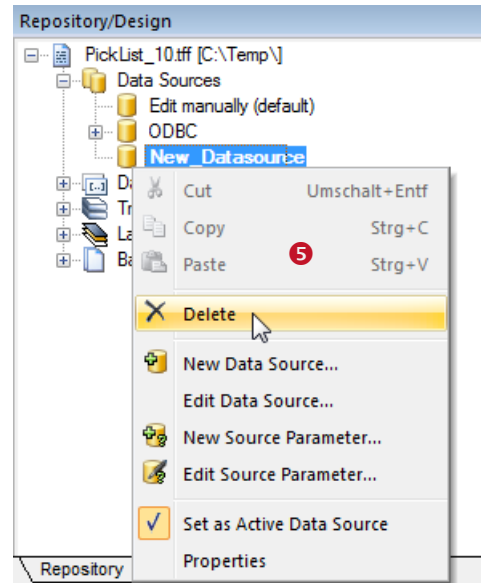

Figure 15: Delete a Data Source
If you right-click on a tree item a context menu will appear (see Figure 15, ❸). The context menu offers various functions for the selected object.